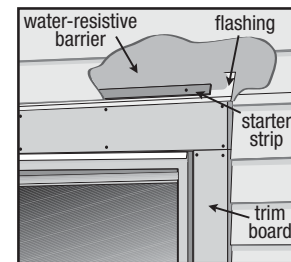

FIGURE 13
- When ending Artisan lap at the bottom of a window or at the top of a wall, a finishing strip similar to a starter strip maybe necessary to achieve a proper plank angle. Also when cutting Artisan lap around doors, windows, or other horizontal trim applications, an additional starter strip maybe necessary to achieve proper plank angle (fig. 13).